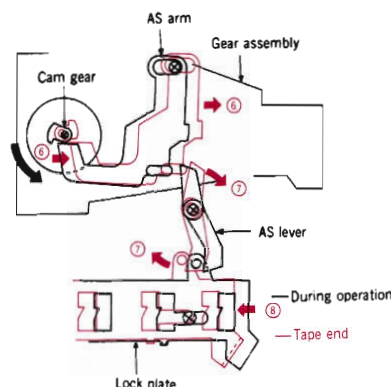

Fig. 16
- 3) When the AS arm slides into the position shown in black in Fig. 16, it engages with the AS cam under the cam gear and slides in the direction of arrow ⑥.
- 4) When the AS arm slides into the position shown in color, the AS lever rotates in the direction of arrow ⑦ and makes the lock plate move in the direction of arrow ⑧. This sliding of the lock plate causes the same conditions as when the stop button is depressed, and each slider goes into the stop mode.